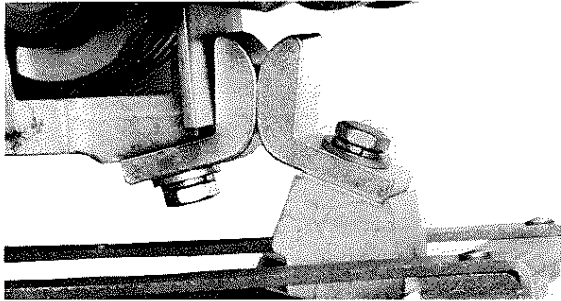

Figure 2
2. Check that the movable contact tip is against the ridge located on the auxiliary arm (13) (Fig. 2).
3. Check that the stationary contact tip is against the stationary support seat or the blowout coil guard (3) (Fig. 2).
4. Check that the contact tip surfaces are aligned both vertically and horizontally (Fig. 2).